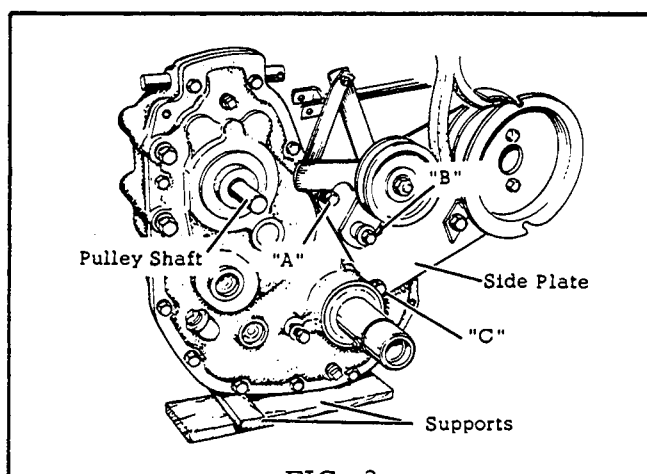

FIG. 2
2. Position the transmission case on supports so that hole "C" on R.H. side of transmission lines up with the mounting hole of side plate. See Fig. 2. Insert the capscrew and tighten partially. Hold the pulley shaft with one hand and by using your knee for a brace, position